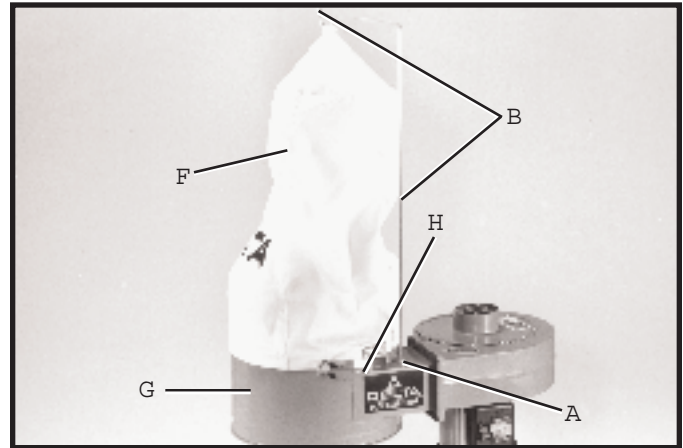
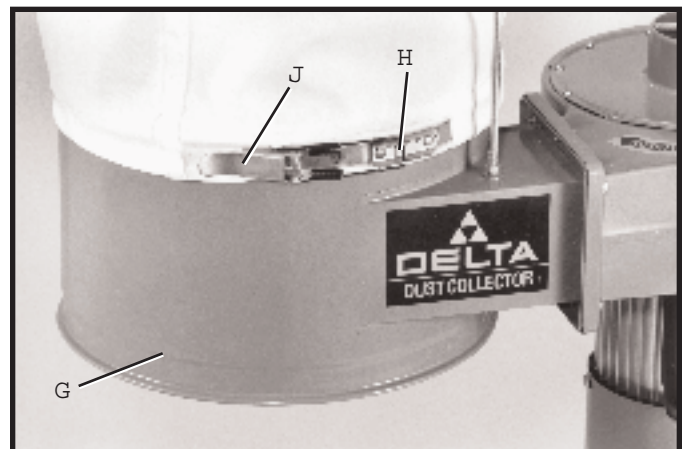

Fig. 11
Fig. 12
2. Hook the loop on the top of filter bag (F) Fig. 11, onto the end of support rod (B).
3. Position open end of filter bag (F) Fig. 11, over the lip of drum (G). NOTE: It may be necessary to adjust the height of the drum support rod at this time. If adjustment is necessary, loosen locknut (A) Fig. 11, and rotate support rod (B) as needed to obtain proper rod height to support filter bag (F). Tighten locknut (A) Fig. 11. Insert locking band (H) through the hem of filter bag (F) and fasten filter bag to drum by locking clamp (J) as shown in Fig. 12. IMPORTANT: Make certain band (H) is positioned in the channel of drum (G) before locking clamp (J).